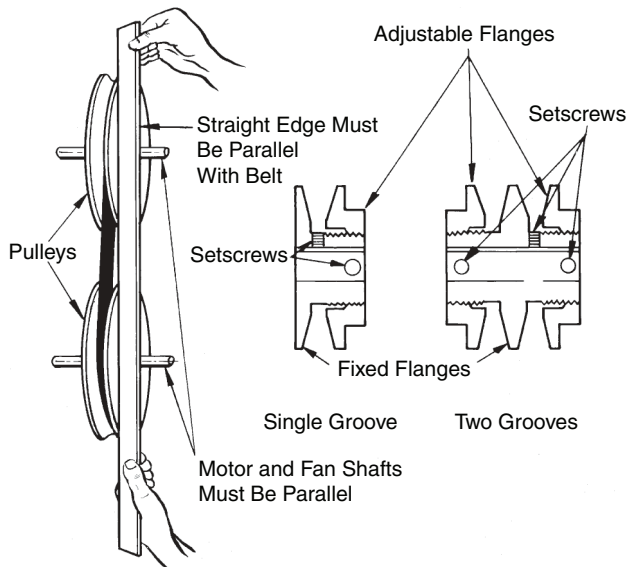

Fig. 26 — Fan Pulley Adjustments
3. Use the methods shown in Fig. 26 to check proper pulley alignment.
2. Loosen setscrew in moveable flange of pulley. Screw moveable flange toward fixed flange to increase the fan speed and away from fixed flange to reduce speed. Before tightening setscrew, make certain that setscrew is over nearest flat surface of pulley hub. (See Fig. 26.)